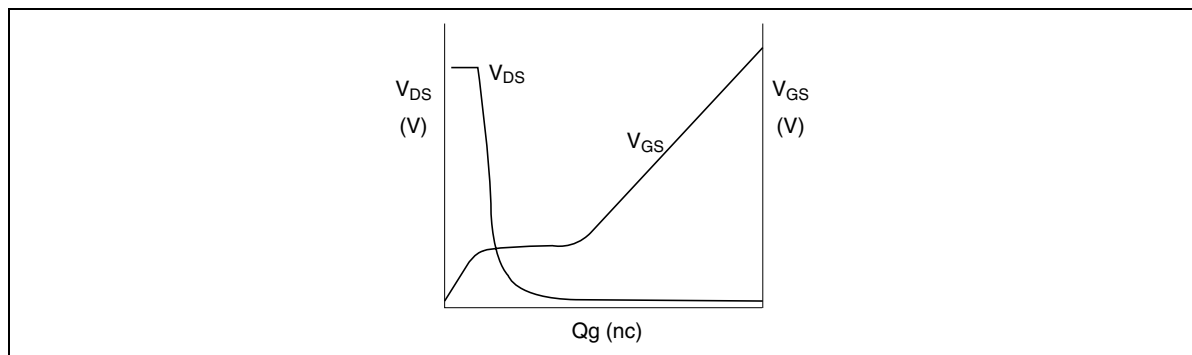

Figure 4.2 Power MOS FET Dynamic Input Characteristics
At this time, the power that should be supplied from the IC to the power MOS FET is determined by gate load Q_g in Figure 4.2.
2. IC Heat-Emission Power Calculation (Figure 4.2)
Qg : Gate charge according to Figure 4.2